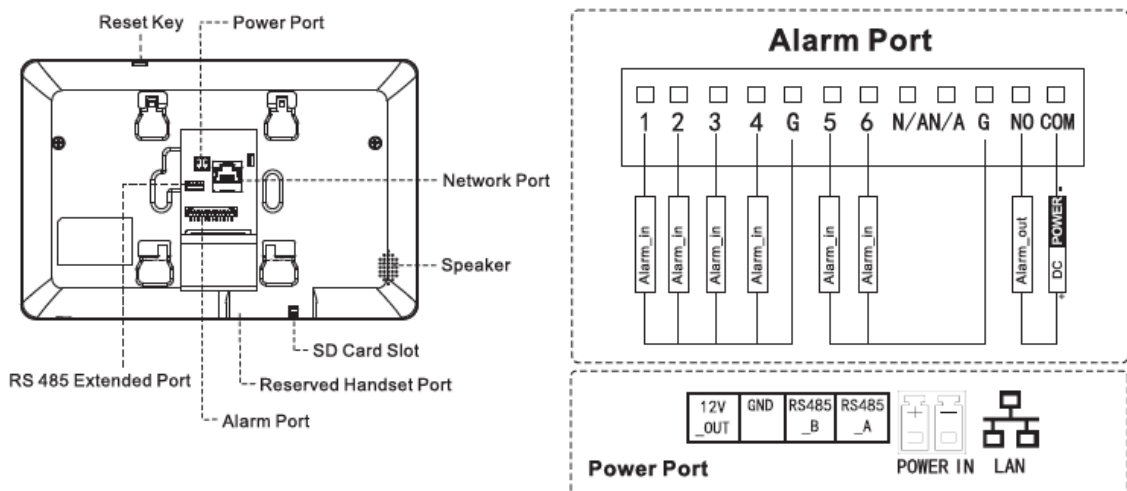

Figure 2-10
Port positions are slightly different on the rear panel, but the same port owns the same function. VTH5221E-H/VTH5221EW-H front panels are shown in Figure 2-10.
- Step 2** Please connect wire by reference to Figure 2-10.